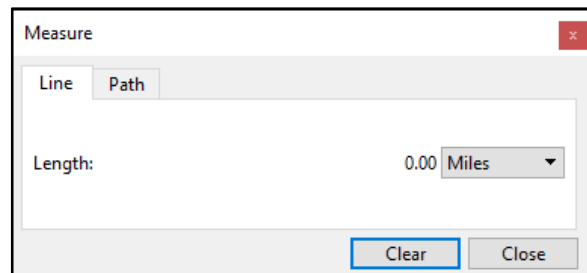

Figure 28. The Measure Tool
1. Open the Measure Tool (Figure 28) by clicking the  button on the toolbar or selecting **Measure Tool** from the View menu of the Main Window (Figure 1).